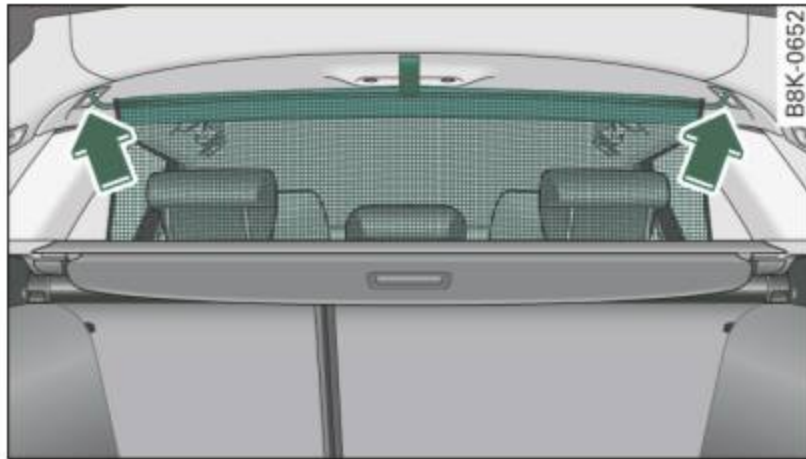

Fig. 82 Partition net hung at the rear
- Hang the crossbar in the rear eyelets **over the rear bench seat** ⇒ fig. 82 -arrow-.